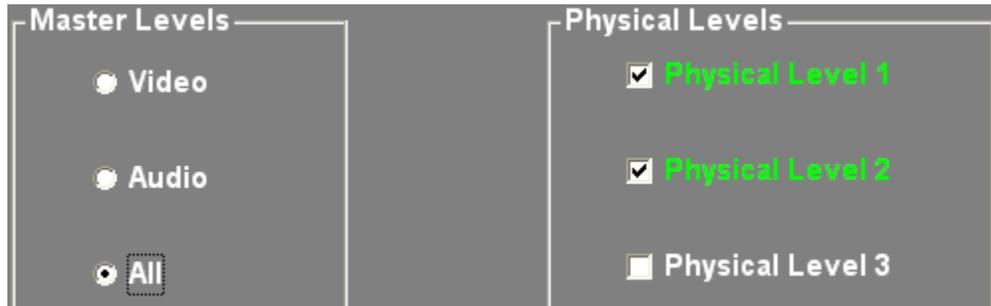

FIGURE 72: Final Level Selections
- 12) Continue assigning levels in a straight across, one-to-one fashion until you select the “All” Master Level. For “All”, check all Physical Levels that have been assigned to Master Levels up to this point. All other Physical Levels should be unchecked. The result should be similar to what is shown in Figure 72. Click OK.